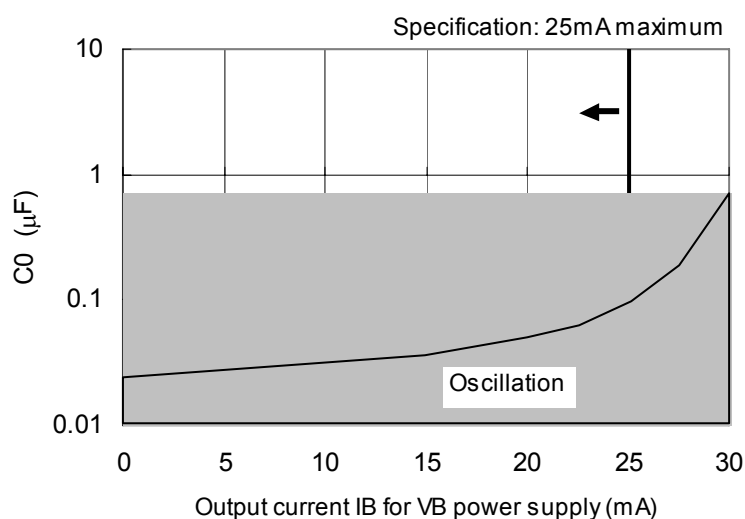

Fig.5-9. IB and C0 dependence of CB pin oscillation (reference data)
- As shown in Fig. 5-9, the CB pin may be oscillated depending on the C0 capacity and the output current IB.